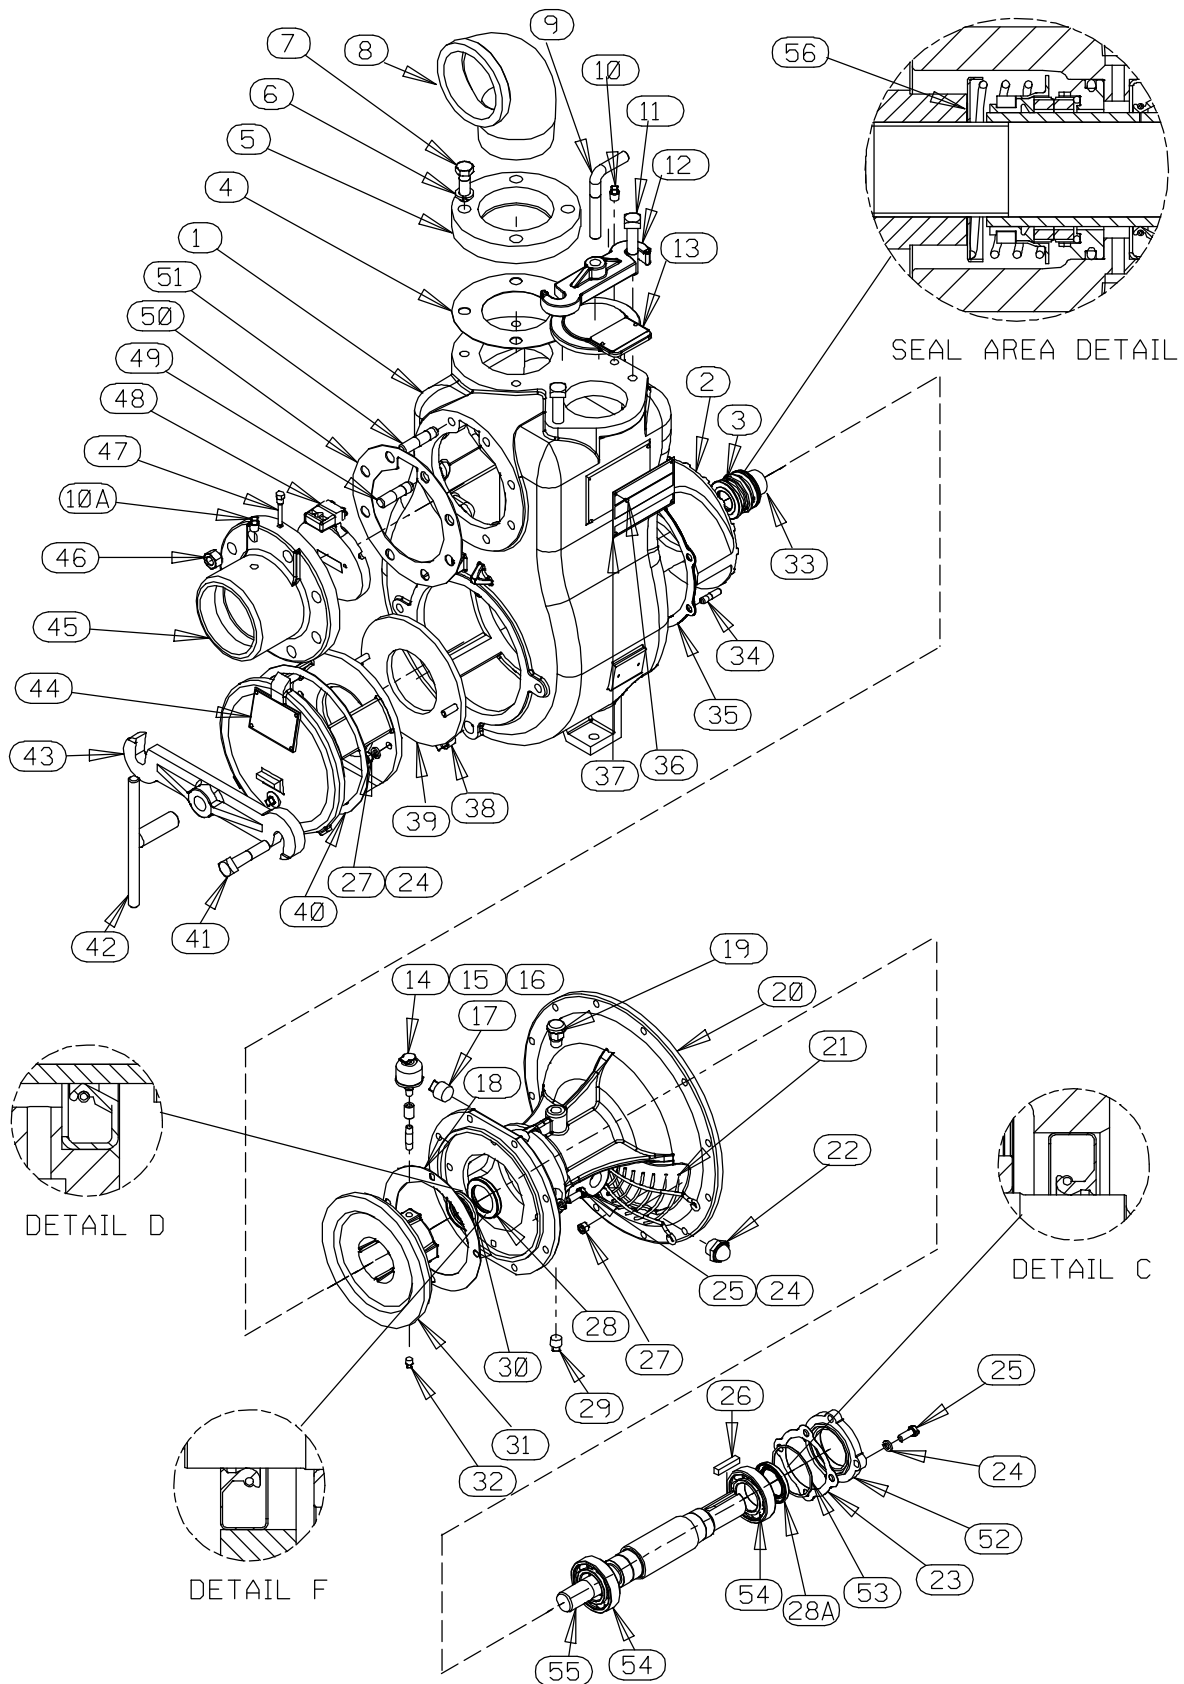

Figure 2. 14C20-(SAE 4/10) Pump End Assembly
(Figure 2)
Remove the hardware (2 and 3) securing the intermediate to the engine bellhousing. Remove the intermediate guards (21, Figure 2) and separate the assemblies by pulling the pump straight away from the engine.
As the assemblies separate, the flexible portion of the coupling assembly (not shown) will remain on the shaft. To remove the coupling from the shaft, unscrew the two allen head setscrews from the bushing (not shown). Screw one of the setscrews into the puller hole on the circumference of the bushing. As the coupling and bushing separate, remove the bushing and slide the coupling off the shaft. Remove the shaft key (26, Figure 2).